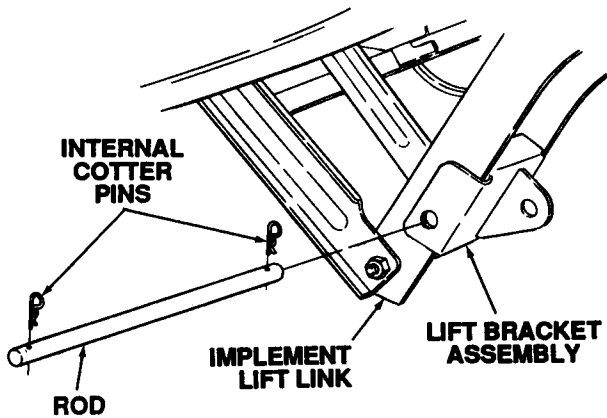

Figure 7-11. installing the Lift Bracket.
When installing the lift bracket (5, Fig. 7-9), the tractor lift links must be positioned **within** the slots at each side of the lift bracket, with the center lift rod tab of the bracket positioned as shown in Figure 7-11.
4. Install the lift bracket (5) onto the tractor lift links, align the holes, and insert the rod (10) through the lift bracket and lift links. Install an internal cotter pin (13) in the other end of the rod (see Fig. 7-11).